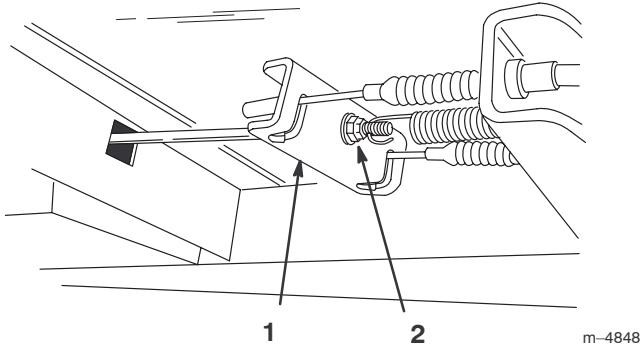

Figure 3
1. Adjust the brake adjustment nut until the cables are snug in the brake equalizer plate (Fig. 3). Do not overtighten.